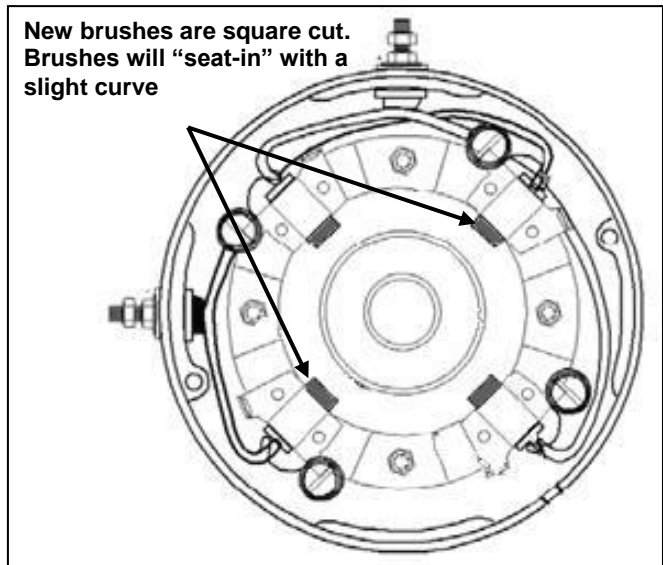

Figure 4-8
- Check motor brushes. Replace if bad or worn (Figure 4-8).